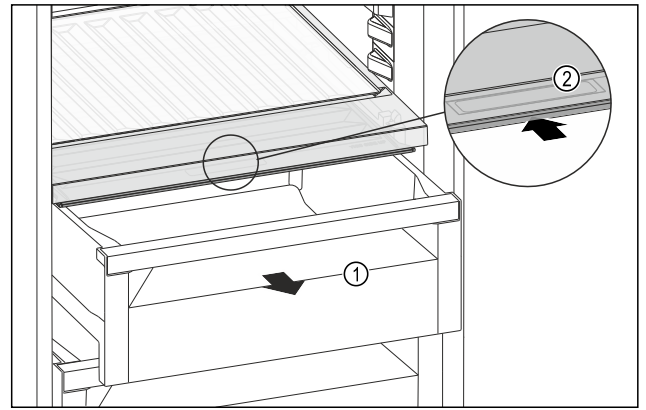

Fig. 118
- ▶ Pull out the drawer Fig. 118 (1).
- ▶ Grasp the recessed grip Fig. 118 (2) on the compartment lid and push the compartment lid backwards at the same time.